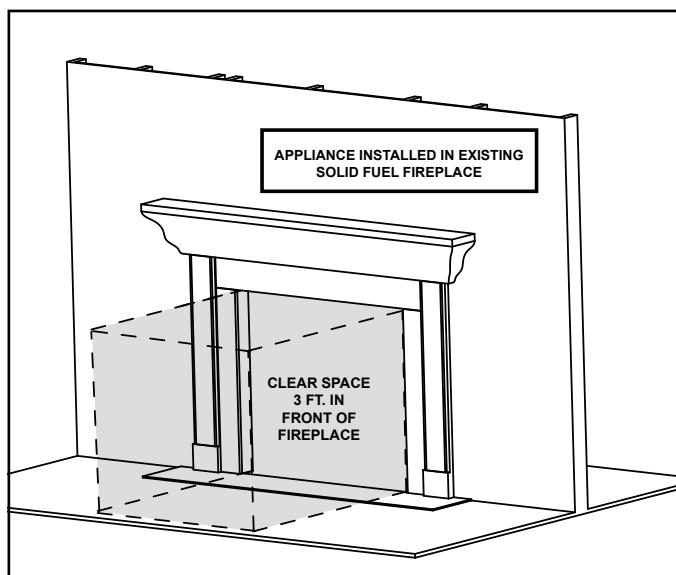

Figure 3.1 Clear Space Requirement - All Models
**WARNING! DO NOT place combustible objects in front of the appliance. High temperatures may start a fire. See Figure 3.1. Appliance requires room air to cool electrical components. Do not block the air passages at the bottom of the appliance, or the air passages between the decorative barrier front and the appliance.**